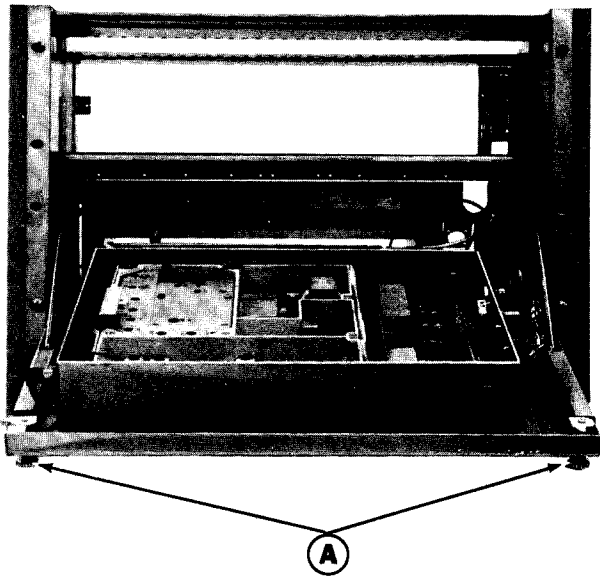

Figure 4 - Access to Exciter
1. Turn the two latching knobs (A) counter-clockwise to unlatch the Radio Panel Front Door. Refer to Figure 4.